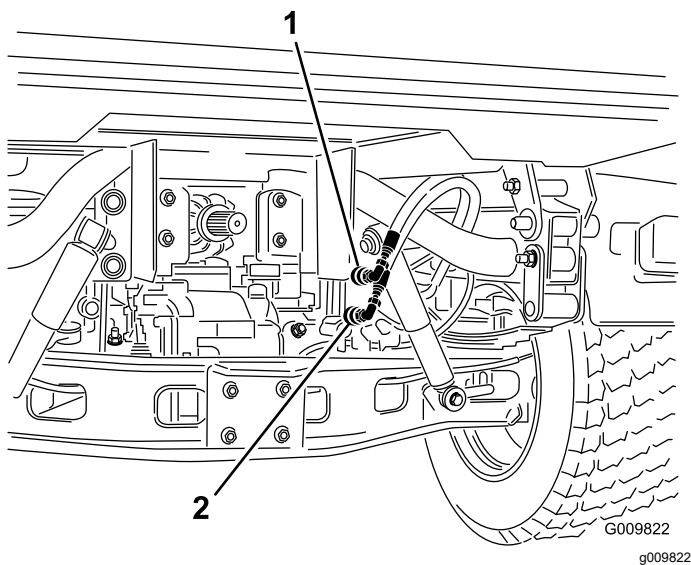

Figure 71
2. On both machine, disconnect the 2 quick-coupler hoses from the hoses secured to the coupler bracket (Figure 71).